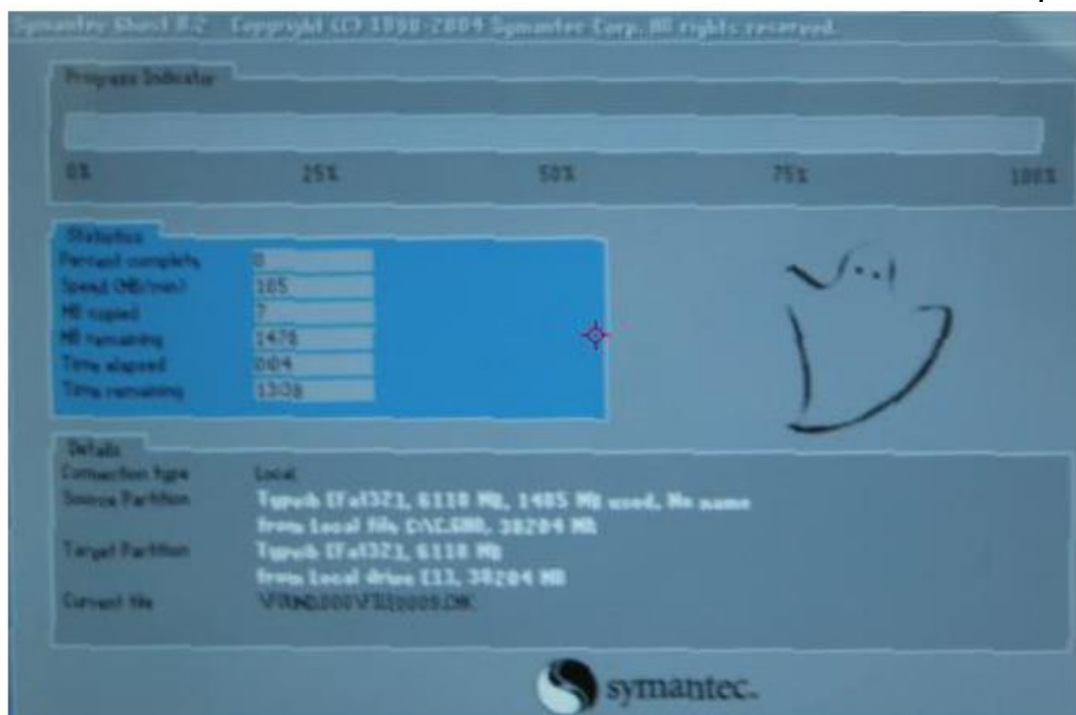

Figure 3.10: System Recovery Interface
3) Subsequently, the page shown in Figure 3.10 appears, and the system recovery starts. The whole process takes about 10 minutes, and the analyzer needs to be restarted after the system recovery is completed.